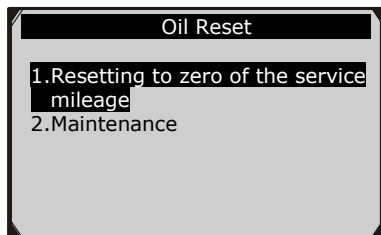

Figure 7.11
- ✓ In the **Oil Reset** menu (Figure 7.11), select **Maintenance** function and press **OK** button. The screen will display the preset maintenance information of the vehicle. The information items vary with different vehicles.